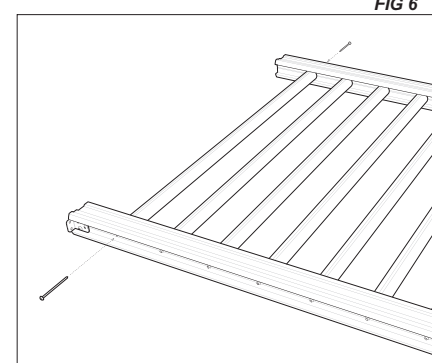

FIG 6
11. Remove the baluster hardware pack from the baluster kit and begin attaching balusters to the top universal rail using the provided #8 x 3" screws. Repeat for the bottom universal rail. **Note: Do not overdrive screws into the balusters. (Figure 6)**
10. Remove the number of balusters needed for your stair rail section from your baluster kit. Determine the required baluster length to retain the railing height at the top of the stair run. Mark and cut to angle each end of the balusters, making sure all balusters are equal in length. **(Figure 6)**